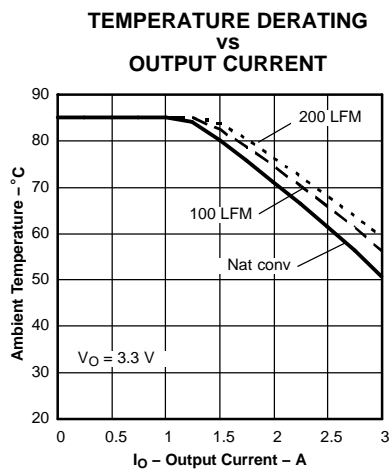
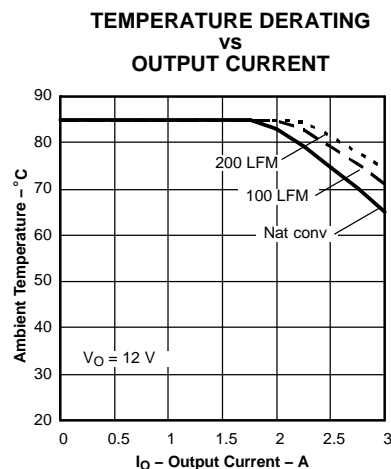

Figure 9.
Figure 11.
- (2) The temperature derating curves represent the conditions at which internal components are at or below the manufacturer's maximum operating temperatures. Derating limits apply to modules soldered directly to a 100 mm x 100 mm, double-sided PCB with 2 oz. copper. Applies to Figure 9 through Figure 11.